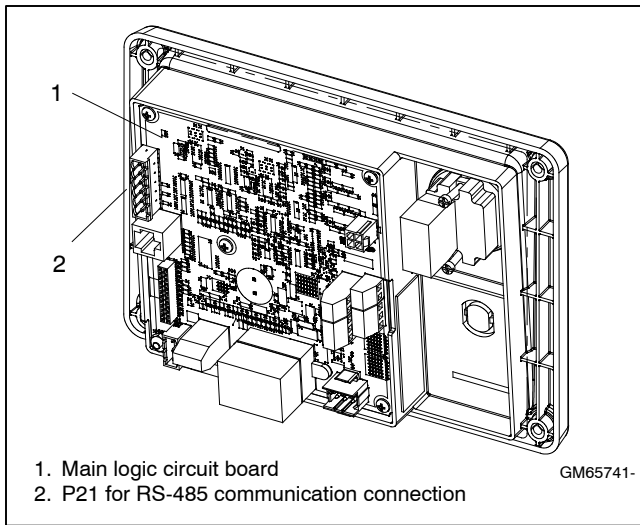
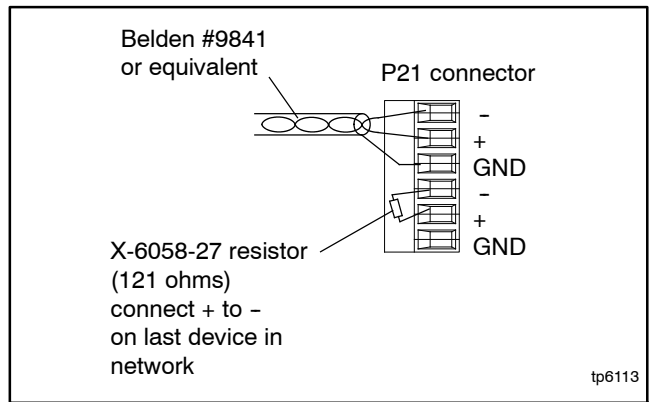

Figure 5-2 Communication Port P21
Figure 5-3 Connection Details
5. Connect to communication port P21 as shown in Figure 5-2 and Figure 5-3.